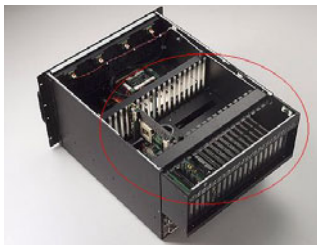

Figure 2.6: Installing the backplane
ACP-7000 supports backplanes with up to 20 slots. To install the backplane, please refer to Figure 2.6 and proceed as follows:
2. Release two thumbscrews to draw out the backplane holder until there is enough space to take out the disk drive housing (See Figure 2.6).